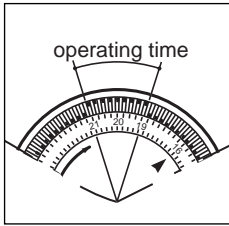

fig.3
- 1) Set the operating times by pushing in with your thumbnail to the outer rim, the notches on the dial corresponding to the period required (fig.3) (each notch represents 15 mins.)